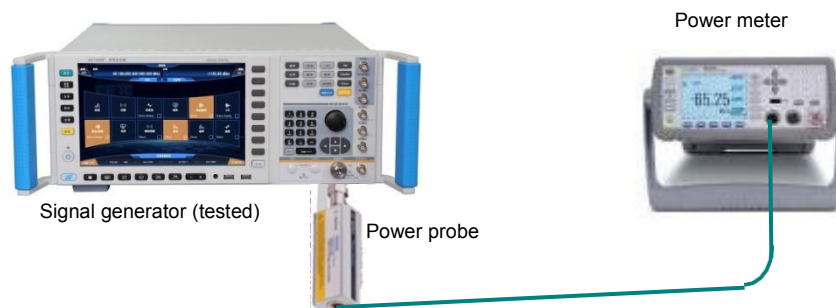

Fig.7.5 Maximum ALC Output Power Test
Step 2. Connect the device as shown in Fig.7.5.
Step 2. Connect the device as shown in Fig.7.5, set the signal generator frequency to 100 kHz and the power to 0 dBm, and record the reading P1 of the power meter.
The same as the Fig.7.5 and 7.6.
Step 1. Connect the device as shown in Fig.7.5 and start and warm up for at least 30 minutes.